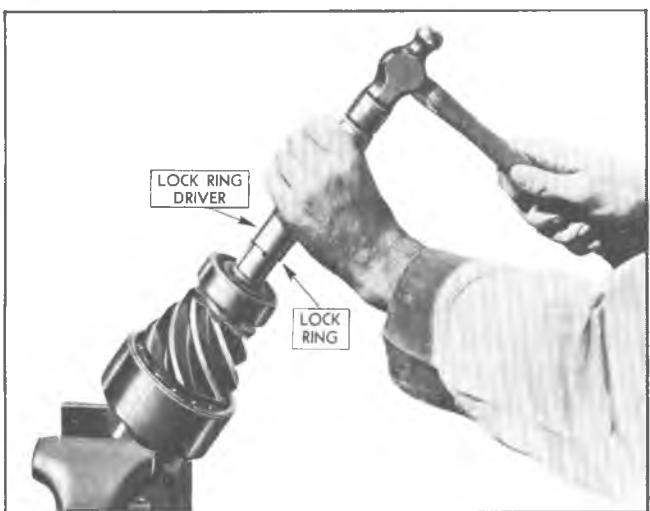

Fig. 5G—Pinion Rear Bearing Lock Ring Installation
3. Install the pinion rear bearing assembly on pinion shaft making sure that chamfered side of inner race seats against shoulder on pinion shaft. Then install pinion bearing lock ring using Tool J- 1364 as shown in Figure 5G.